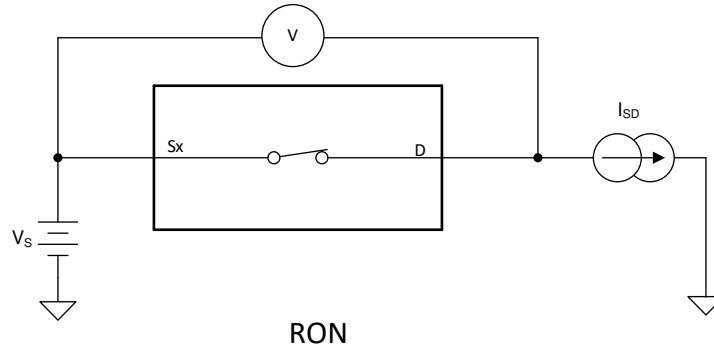

图 7-1. On-Resistance Measurement Setup
The on-resistance of a device is the ohmic resistance between the source (Sx) and drain (D) pins of the device. The on-resistance varies with input voltage and supply voltage. The symbol  $R_{ON}$  is used to denote on-resistance. 图 7-1 shows the measurement setup used to measure  $R_{ON}$ . Voltage (V) and current ( $I_{SD}$ ) are measured using this setup, and  $R_{ON}$  is computed with  $R_{ON} = V / I_{SD}$ .